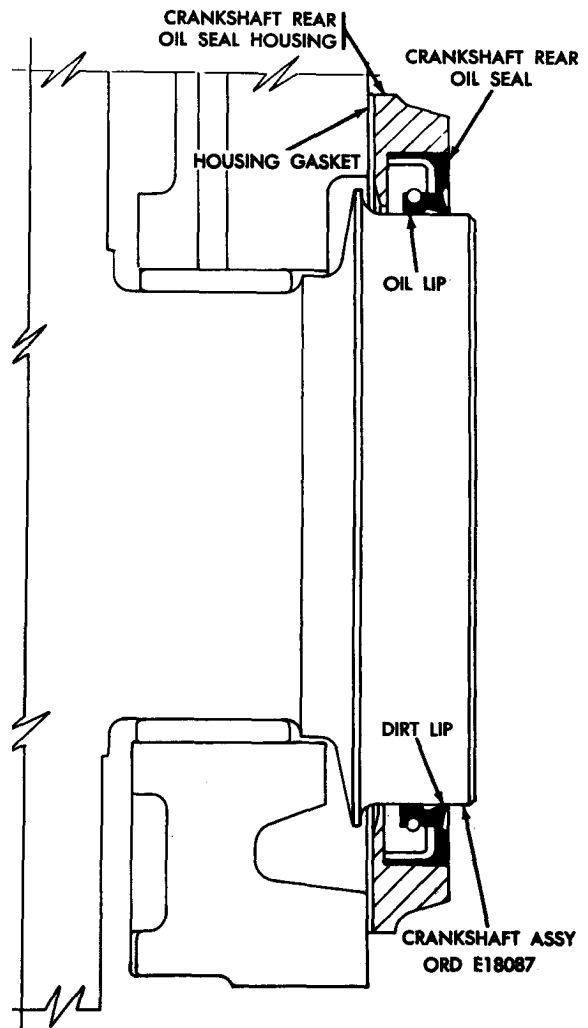

FIGURE 167. CRANKSHAFT REAR OIL SEAL IN OIL SEAL HOUSING.
- (1) Figure 166. (A) Position crankshaft rear oil seal housing, gasket surface down, on press table as shown. (B) Start crankshaft rear oil seal into "housing making sure oil seal lip is facing housing gasket surface as shown in figure 167. (C) Install oil seal into housing using a suitable pressing plate having a slightly smaller diameter than the oil seal casing.